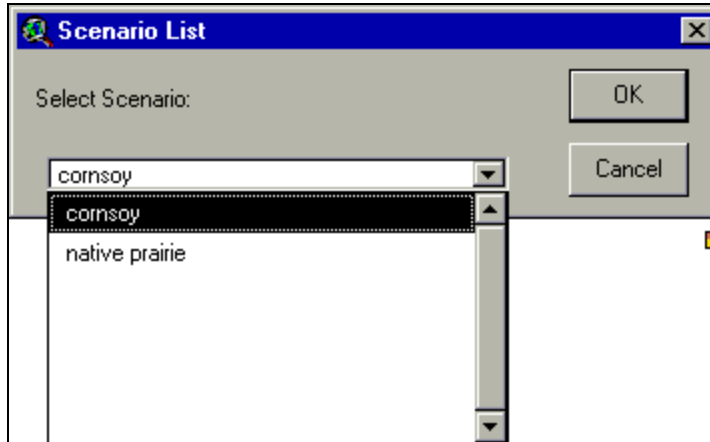

Figure 12.67
- b. A prompt box will appear (Figure 12.67).